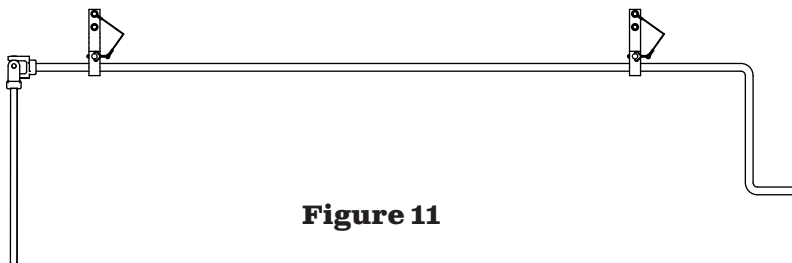

Figure 11
- 1) Figure 11.** Mount crank retainers within easy reach of the operator. Drill pilot holes and secure with 3/8" x 1" HWH Type F bolts.